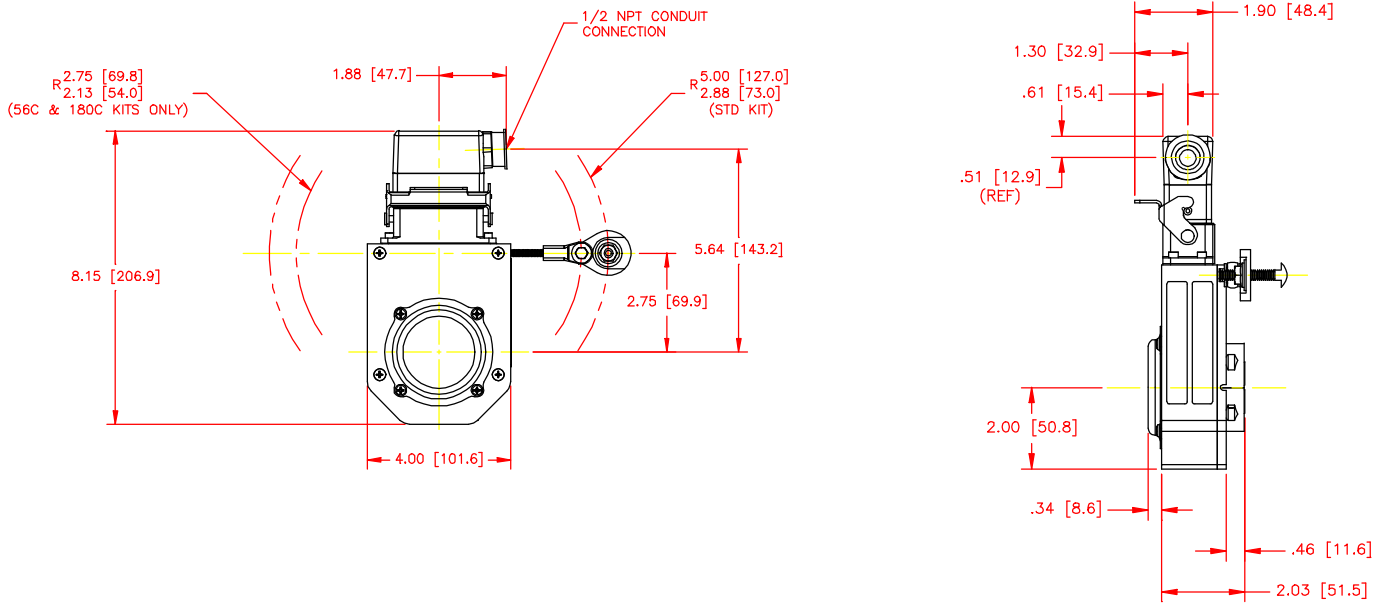

Figure 2: MagCoder0 HS35 Dimensional Drawing.
Figure 2: Magcoder® HS35 Dimensional Drawing .....	6
2. Mount the anchor lug to one of the four 3/8" holes on the 5.875" bolt circle of the motor C-face using the .375 16 UNC bolt. Align lug to form a straight line from motor shaft to anchor lug mounting hole (see Figure 2). Torque = 200 in-lbs.